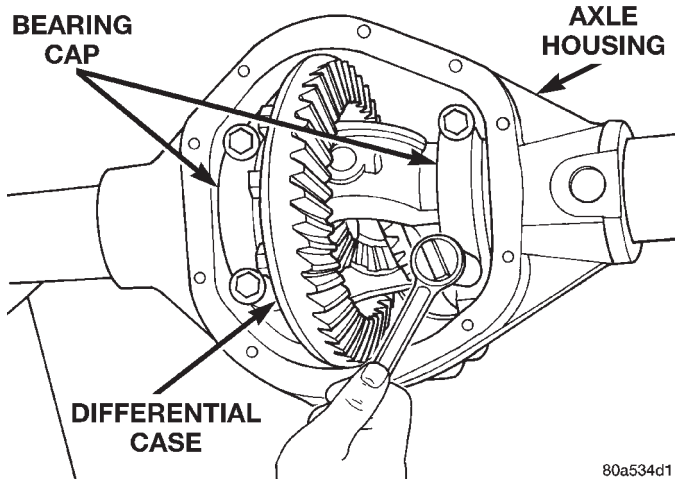

Fig. 62 Tighten Bolts Holding Bearing Caps
- (1) Remove differential side bearings from differential case.
- (2) Remove factory installed shims from differential case.
- (3) Install ring gear on differential case and tighten bolts to specification.
- (4) Install dummy side bearings D-348 on differential case.
- (5) Install differential case in axle housing.
- (6) Install the marked bearing caps in their correct positions. Install and snug the bolts (Fig. 62).